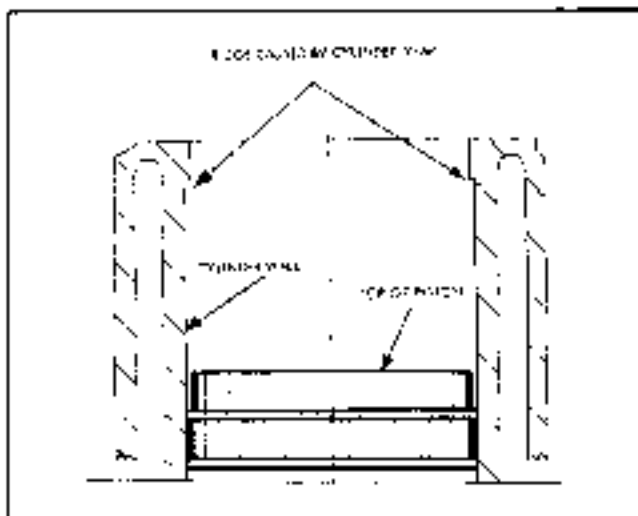

Fig. 6-51 Cylinder Ring Ridge
4. Remove ring ridge using a suitable ring ridge remover (Fig. 6-51).